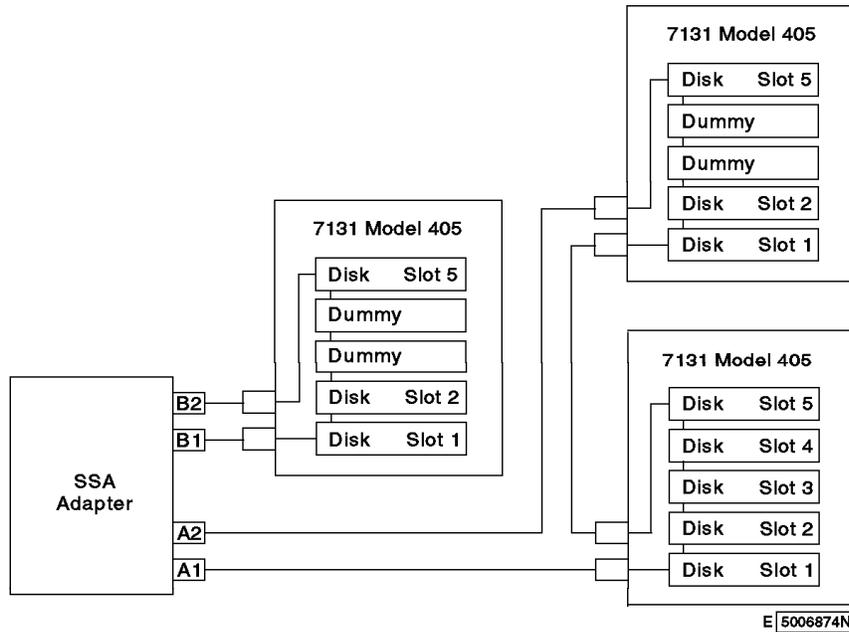

Figure 1-15. Normal Loops
**Example 1 Normal Loops:** In Figure 1-15, eight disk drive modules are connected to connectors A1 and A2 of the SSA adapter. Four disk drive modules are connected to connectors B1 and B2 of the same SSA adapter.